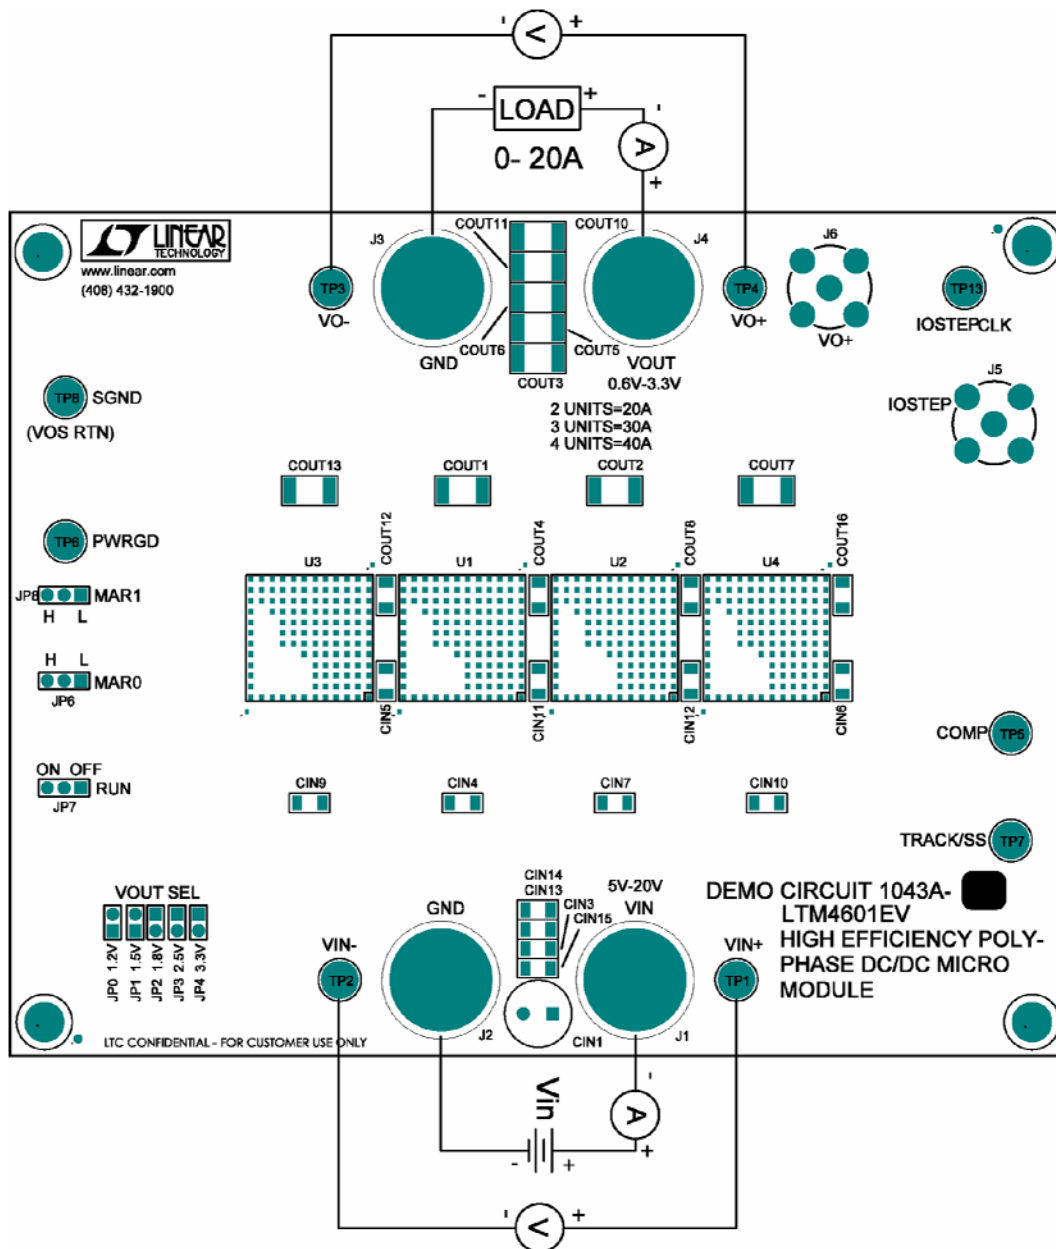

Figure 1. Test Setup of DC1043A-A
Demonstration circuit DC1043A-A is easy to set up to evaluate the performance of the LTM4601EV. Please refer to Figure 1 for proper measurement equipment setup and follow the procedure below:
2. With power off, connect the input power supply, load and meters as shown in Figure 1. Preset the load to 0A and Vin supply to be less than 20V.